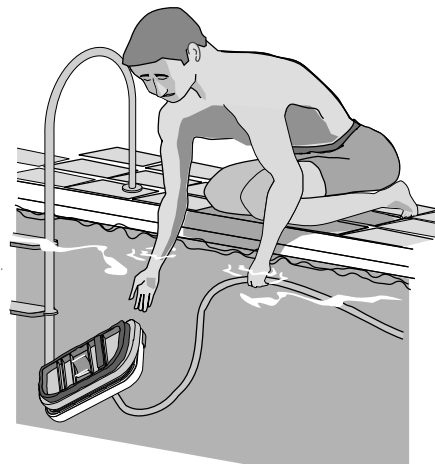

Figure 8
Step 8: Connect hose to filter system (Figure 8)